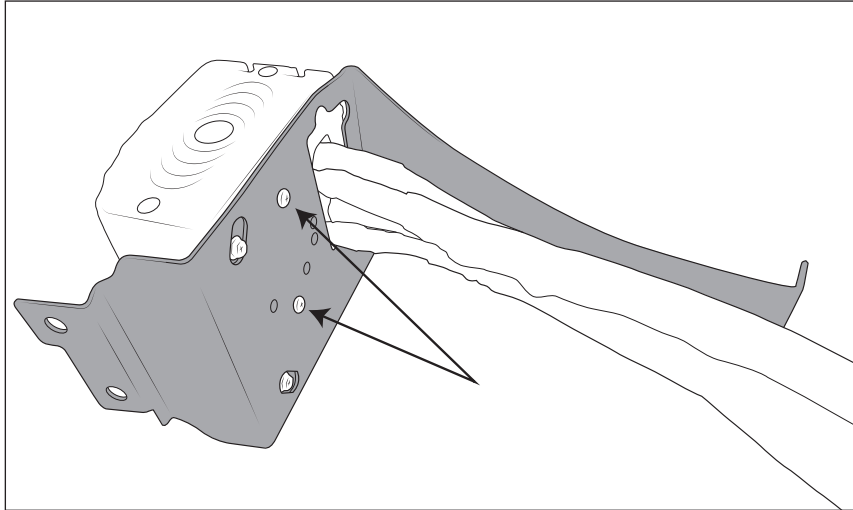

Figure 10
3. Assemble Come Up controller onto the Controller Bracket with existing screws (fig. 10).